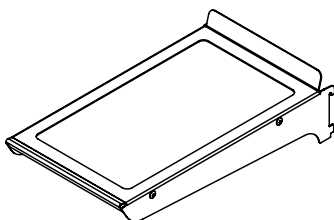

Figure 35
(2) frame and flat glass cantilever shelves. (See Figure 35).
- (1) half width flat glass cantilever shelf. (See Figure 35).